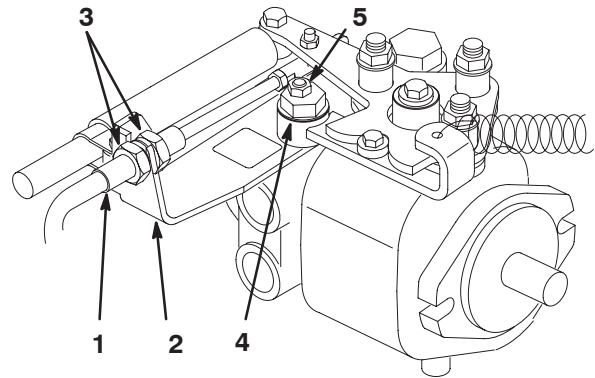

Figure 50
- A. Loosen both jam nuts securing the traction control cable to the bulkhead on the hydrostat (Fig. 50). Make sure the jam nuts are loosened equally and sufficiently to allow adjustment.
- B. Loosen the nut securing the eccentric to the top of the hydrostat (Fig. 50).
- D. Rotate the eccentric until creep does not occur in either direction. When the wheel stops rotating, tighten the nut locking the eccentric and the adjustment (Fig. 50). Verify the adjustment with the throttle in the Slow and Fast position.
- E. From each side of the bulkhead, tighten the locknuts **evenly**, securing the traction cable to the bulkhead (Fig. 50). Do not twist the cable.